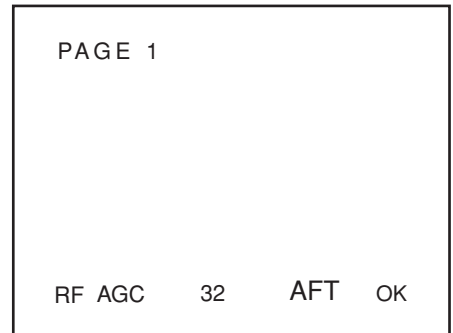

Fig. 1-6
2. Using the volume keys on the jig remote controller to adjust the test point voltage value to $4.0 \pm 0.5VDC$. Then check if the status of AFT on the Adjustment Menu Screen is displayed “OK” as shown in Fig. 1-6.